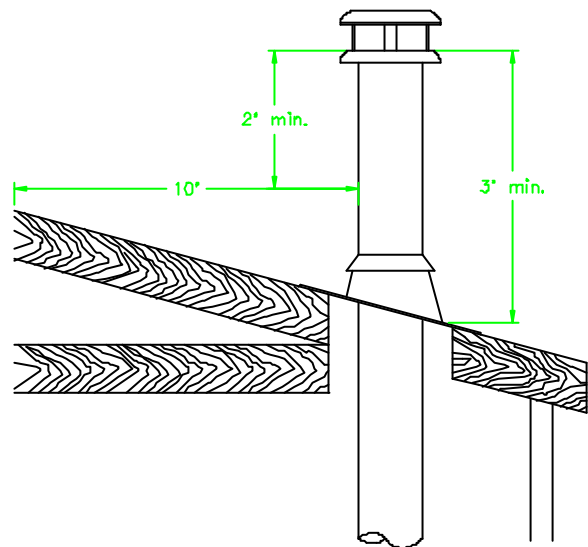

Figure 24
6. The chimney must extend at least 3 ft. (915 mm) above its point of contact with the roof and at least 2 ft. (610 mm), higher than any wall, roof or building within 10 ft. (3m) of it (Figure 24).